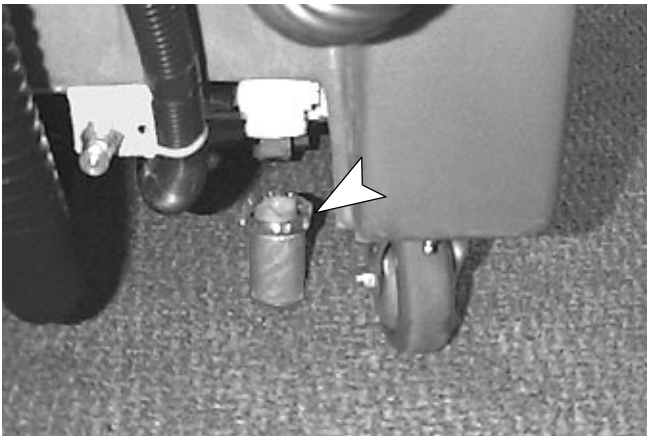

FIG. 21
4. Remove inline strainer filter and rinse out. Make sure solution tank is empty before removing filter. Filter is located under machine at rear (Figure 21).